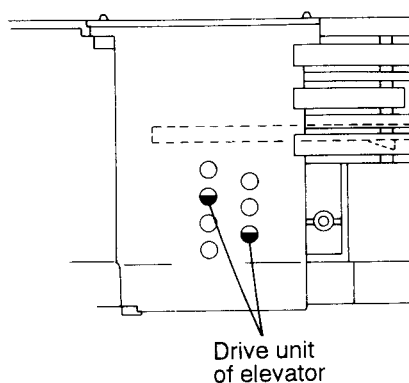
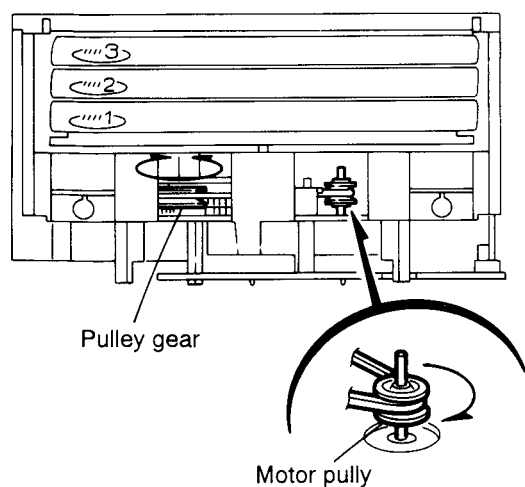

Fig. 5-36a
Fig. 5-37
12. Make sure that the driver unit elevator is positioned as shown in Fig. 5-36a from to the second or fifth hole on the left side face of the CD changer mechanism.
- [Caution]** In case the driver unit elevator is not at the above position, set the elevator to the position as shown in Fig. 5-36a by manually turning the pulley gear as shown in Fig. 5-37.
13. Manually turn the motor pulley in the clockwise direction until the lifter unit stopper is lowered from the section (F) of CD tray assembly (See Fig. 5-37).